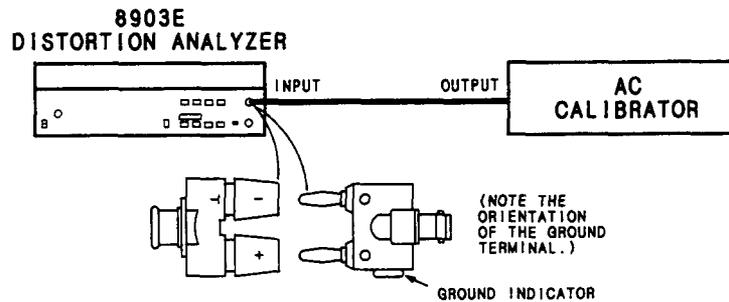

Figure 4-1. High-Level, Low-Input AC Level Accuracy Test Setup
- Connect the equipment as shown in Figure 4-1. Note how the cable connects to the Distortion Analyzer's input through the two adapters. The adapters reverse the outer and inner conductor connections to the cable.